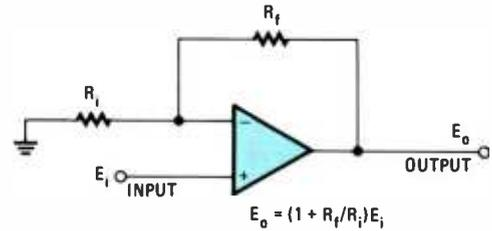

Fig. 7—This is a non-inverting op-amp having voltage gain.
20. (+1 or unity) Sometimes a non-inverting amplifier with gain is required. That combination of qualities can be obtained with the circuit shown in Fig. 7. The circuit is similar to a standard inverter, but the input resistor (R_i) is grounded and the input signal is applied to the non-inverting (+) input. The gain of this circuit is: $1 + R_f/R_i$. If $R_f = 100K$ and $R_i = 40K$, the gain is $1 + 100K/40K = 1 + 2.5 = 3.5$.